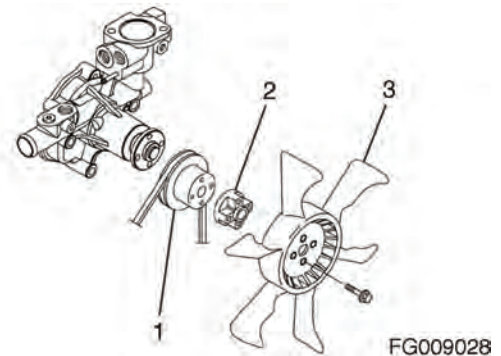

Figure 332
5. Reinstall the engine coolant pump V-pulley (1, Figure 332), spacer (2, Figure 332), engine cooling fan (3, Figure 332) and engine cooling fan guard (if equipped).